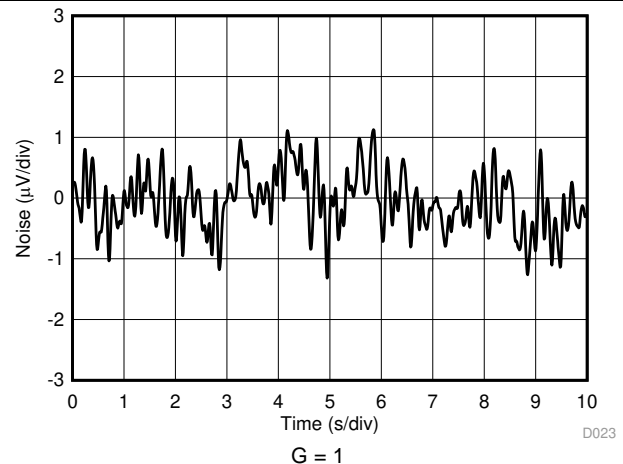

Figure 24. 0.1-Hz to 10-Hz RTI Voltage Noise
0.1-Hz to 10-Hz RTI Voltage Noise, $G = 1$	Figure 24